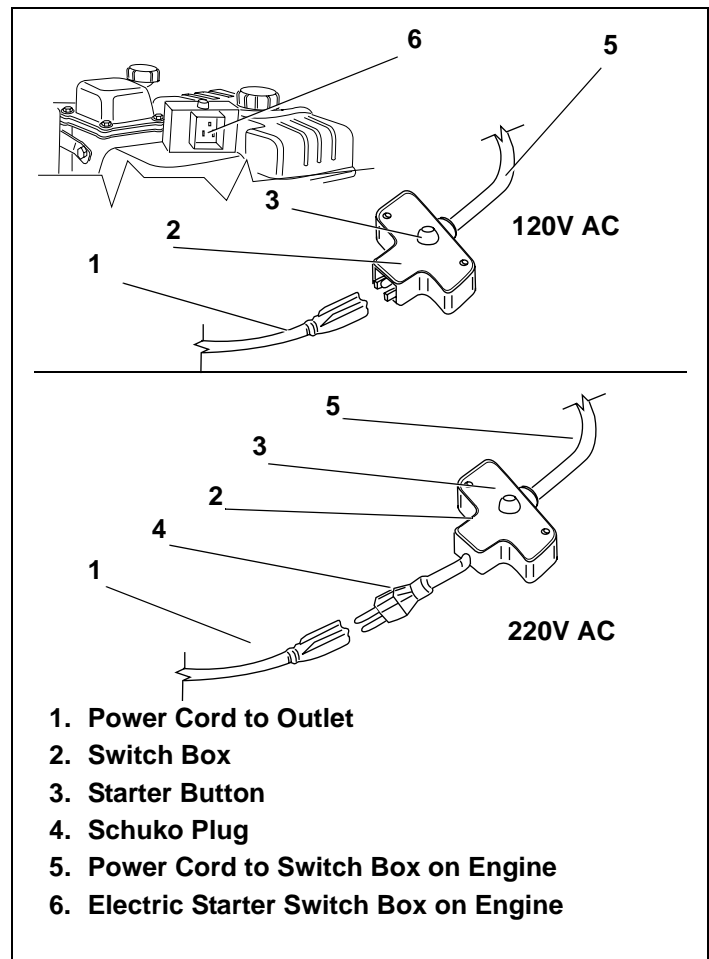

Figure 20. Electric Starter Connections
When connecting power cord, always connect power cord to switch box on engine first; then into outlet. See Figure 20.
- Connect power cord to switch box on engine. See Figure 20.
- a. Release starter button or ignition switch key. See Figure 20 on page 10. Afterward, continue reading instructions below.
When disconnecting power cord, always disconnect power cord from outlet first; then disconnect power cord from switch box on engine. See Figure 20 on page 10. Afterward, continue reading instructions below.
13. Disconnect power cord from outlet. See Figure 20 on page 10. Afterward, continue reading instructions below.
14. Disconnect power cord from switch box on engine. See Figure 20 on page 10. Afterward, continue reading instructions below.